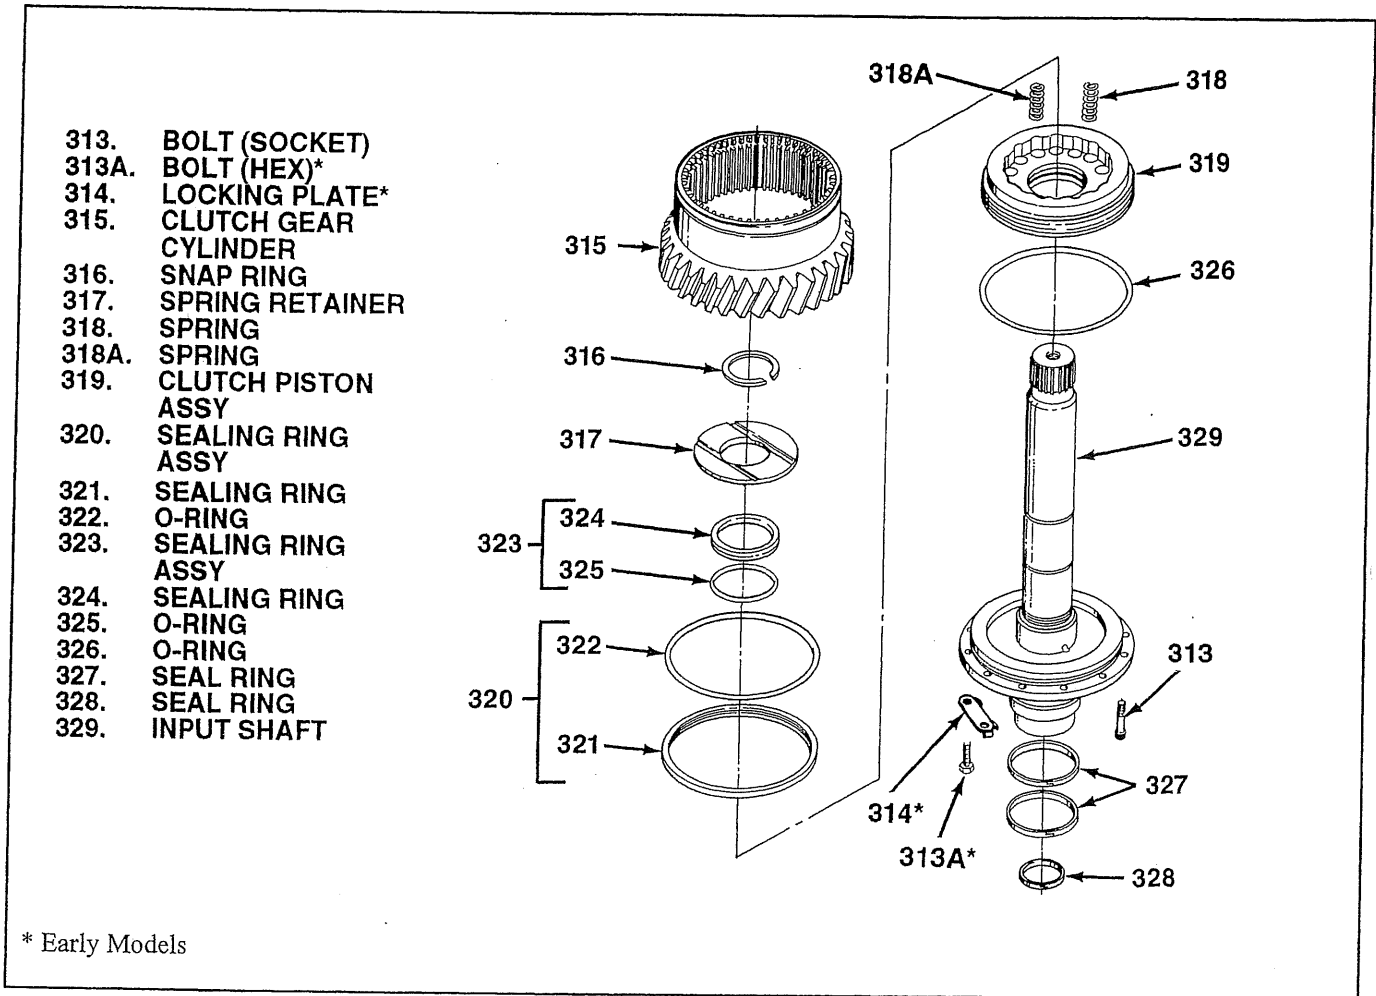

Figure 3-11. Input Clutch Cylinder and Piston
**3-19. REMOVAL OF CLUTCH CYLINDER AND PISTON.** Proceed as follows (see figure 3-11):
**CAUTION:** OD and ID of clutch piston assembly (319) and mating bore in clutch gear cylinder (315) and OD on input shaft (329) are highly finished. Use care not to scratch or otherwise damage these surfaces. Damaged surfaces may result in fluid leakage and shift malfunctions.
1. Remove snap ring (307) if not already removed.
2. Remove twelve bolts (313) and lock plates if used.
3. Remove clutch gear cylinder (315) from input shaft (329).